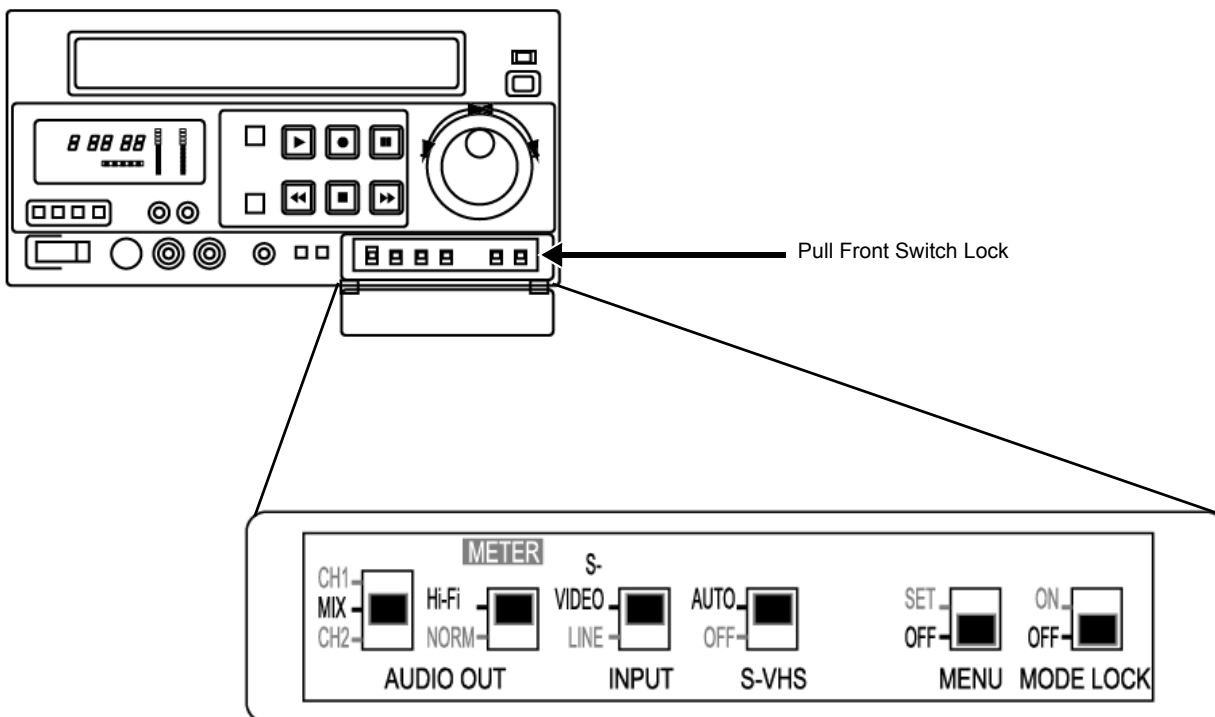

Figure 8-124 Panasonic VCR Switches Setting
- 5.) Verify that the switches on the VCR front switch panel are as shown in Figure 8-124 on page 8-131. If necessary, adjust accordingly.